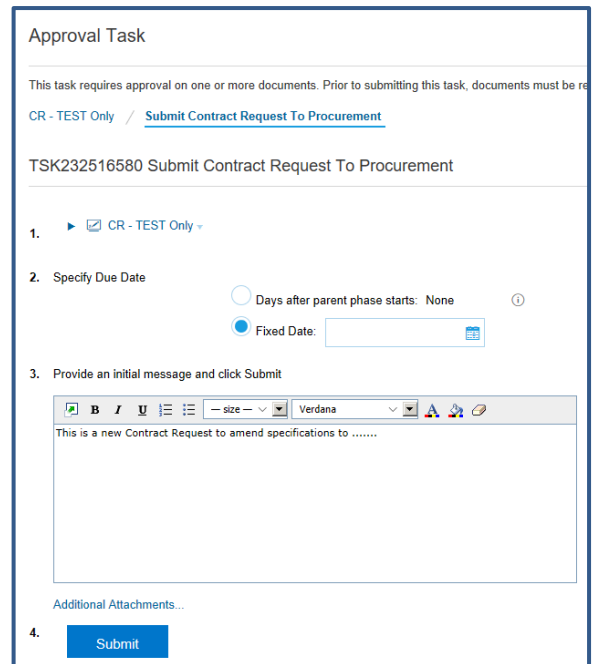

Figure 11
2. Select the dropdown arrow and **Action** ➤ **View Task Details**. The Approval Task screen is displayed (Figure 11).